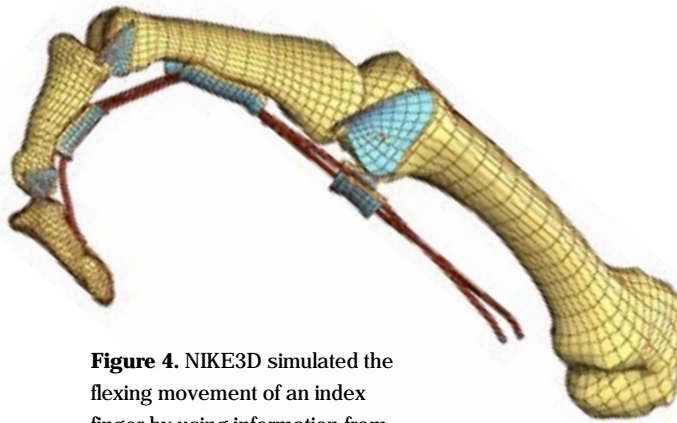

Figure 4. NIKE3D simulated the flexing movement of an index finger by using information from magnetic resonance imaging and computed tomography.
Several geophysical techniques were used at Visalia to monitor the underground movement of steam and the progress of heating. One technique was electrical resistance tomography, a technology developed at Livermore, applied during the 1993 gasoline cleanup, and now available commercially. Electrical resistance tomography is an imaging method like a CAT scan that provides near-real-time images of the underground processes between pairs of monitoring wells (Figure 4). Soil electrical
tomography (CT) to acquire geometric data and bone surface definitions. To these data they added magnetic resonance imaging (MRI) data from collaborators that delineate soft joint tissues. Together, CT and MRI data define how bones and tissues attach to each other. Their resulting images were converted into three-dimensional surfaces using specially developed processing software, and those three-dimensional surfaces were then meshed for finite-element analysis (Figure 4).